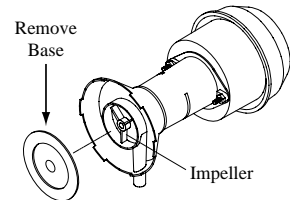

Fig. 9
- **Cleaning pump.** Cleaning the pump is necessary once a year at start-up. For your safety, disconnect from power source and unplug pump. Remove the pump from the mount bracket. Remove the base of the pump (Fig. 9). Clean the pump and turn the impeller to ensure free operation. Remove the pump spout and check for any blockage. After cleaning, reinstall the base onto the pump. Reattach the pump to the mount in the cooler to ensure that the pump will not overturn. Do not forget to replace the spout and water delivery tube onto the pump outlet. The pump has automatic reset thermal protection. Pump will operate normal again after obstruction is cleared.